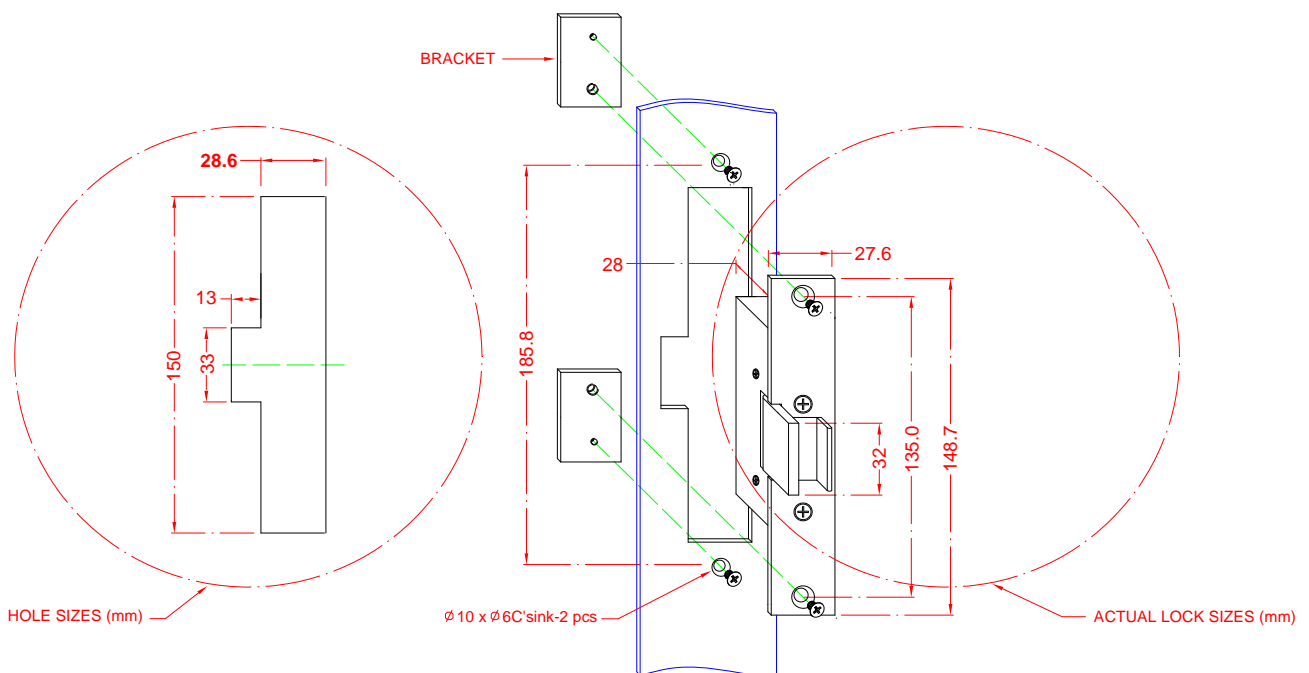

Figure 2
1. For aluminum or metal door, frame brackets are supplied for assembly, refer to Figure 2.
3. Mark and drill the hole sizes as indicated on Figure 2